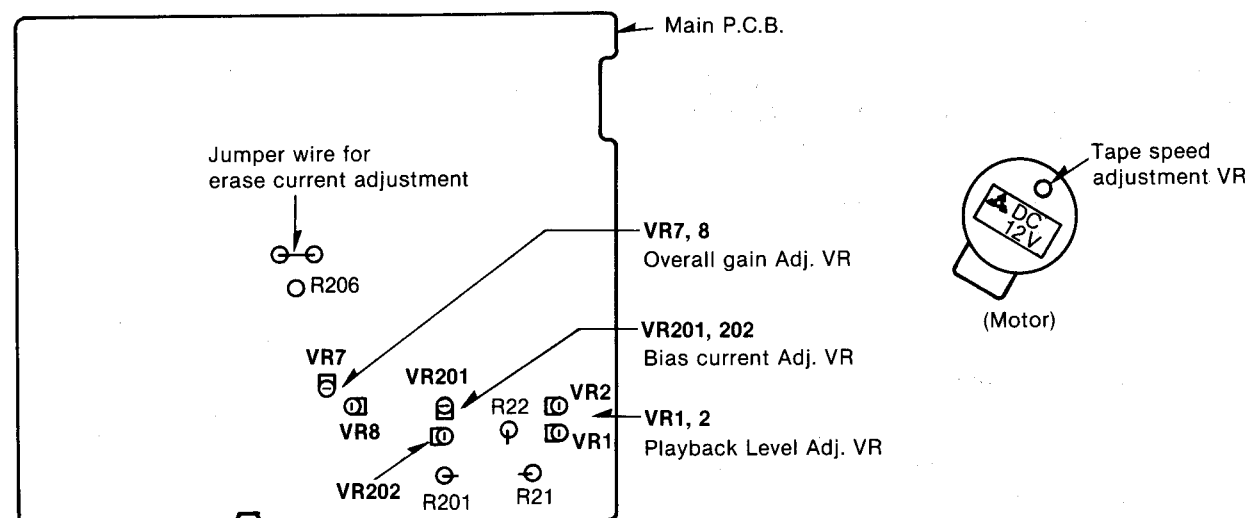

Fig. 1
- If measured value is not within the standard value, adjust it by using the tape speed adjustment VR shown in Fig. 1.
1. If the measured value is not within the standard, adjust VR1 (L-CH) or VR2 (R-CH) (See fig. 1).
② Erase current